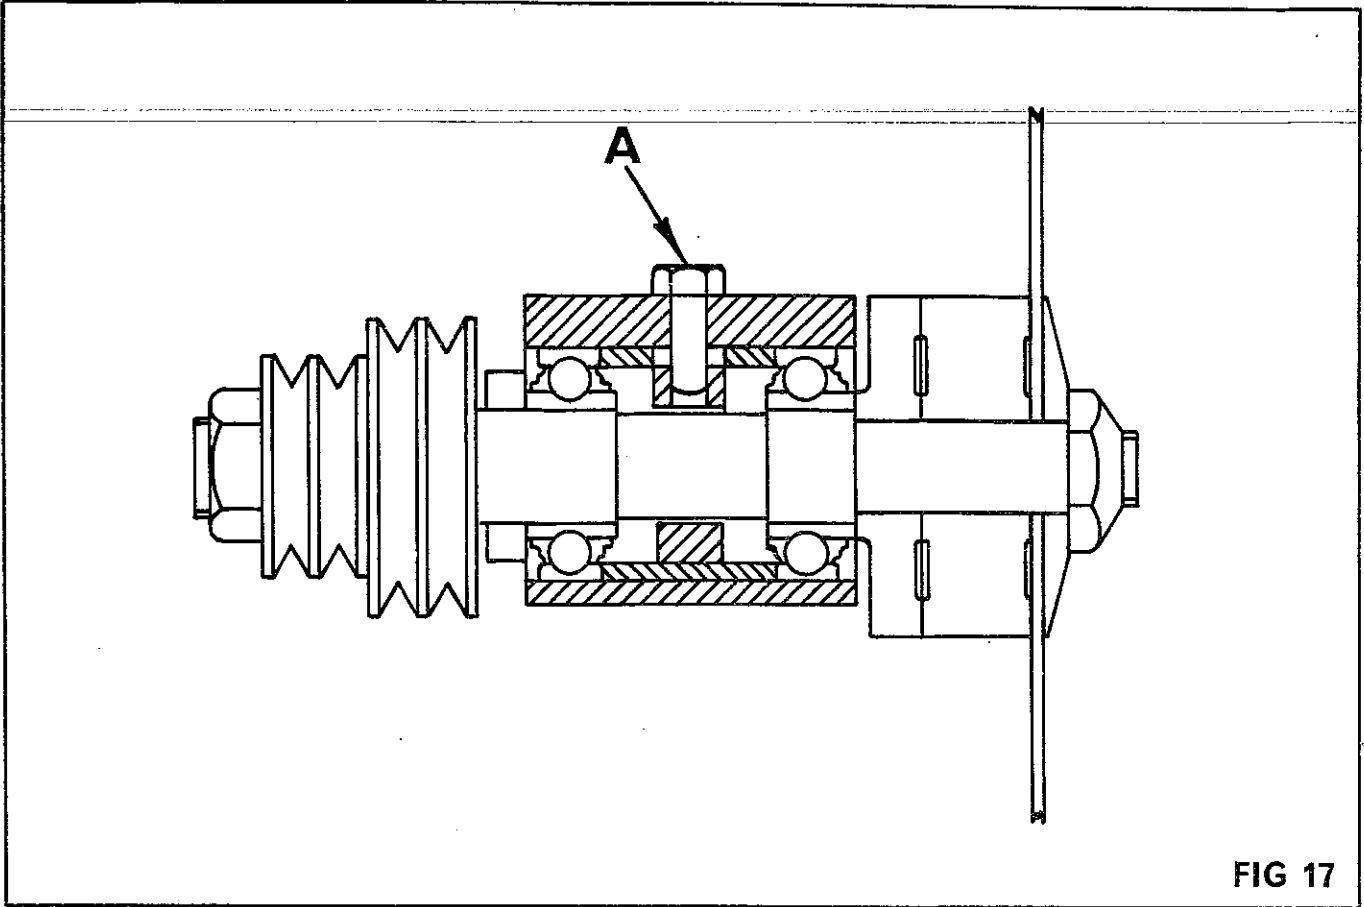

FIG 17
1. Loosen the hexagon head adjuster bolt "A" in FIG 17 , and tap spindle (with hide-face hammer) as required, taking care not to damage the threads on spindle ends.